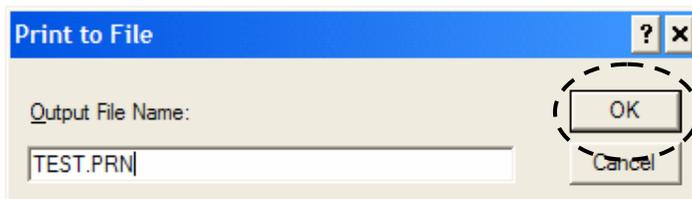

Fig.4 Naming the PRN file.
3. Click the **Yes** button when you are satisfied with your adjustment (**fig. 4**).
(fig. 4)
3. Click *Yes* when you are satisfied with your adjustment (fig. 4).
7) Type the name and location of the output PRN file. You **MUST** use the **“.PRN”** extension to successfully generate the PRN file. Click the **OK** button as shown on the fig.4